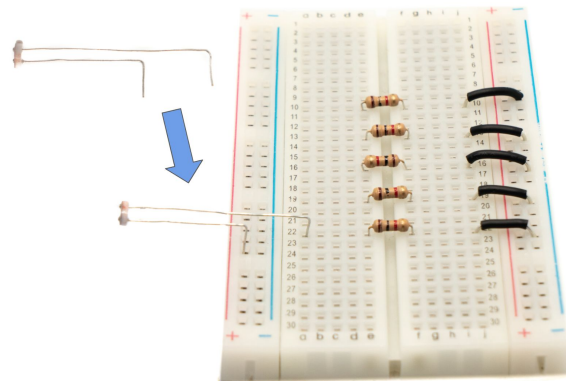

Figure 2.5
4. Bend both legs at equal amounts. You should be able to plug them into the breadboard and fit perfectly. (Fig 2.5)